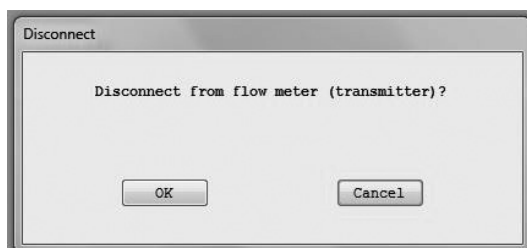

Fig. 3-14
- (2) The message box (Fig. 3-14) will be displayed. By clicking "OK" button, the connection between flowmeter and LinkTop will be terminated.